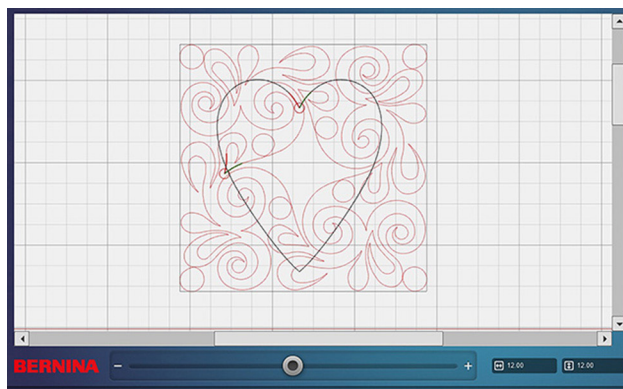

Fig. 17
6. Zoom in as needed to select the Heart design using your finger or mouse. The Heart design will turn black (Fig. 17).